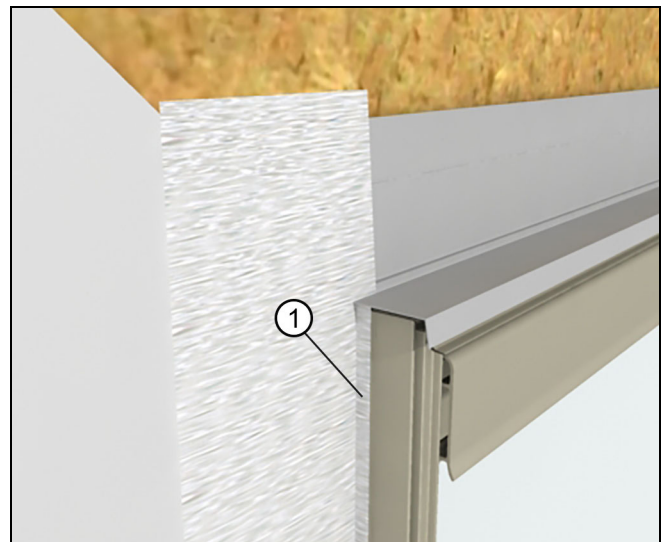

Figure 42
3. Lap vertical strips of flashing onto the unit or casing and out over the weather resistive barrier. Make small cuts at the head jamb to allow the flashing to fold back onto the exterior. See Figure 42.